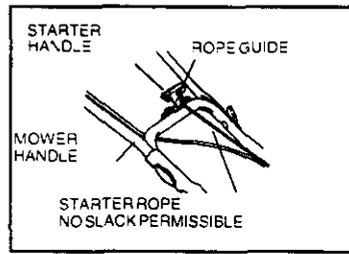

Figure 4
- D. With starter handle resting on rope guide (see Figure 4), check starter rope for slack. If there is any slack, pull more starter rope through starter handle and relocate left hand knot to eliminate slack.